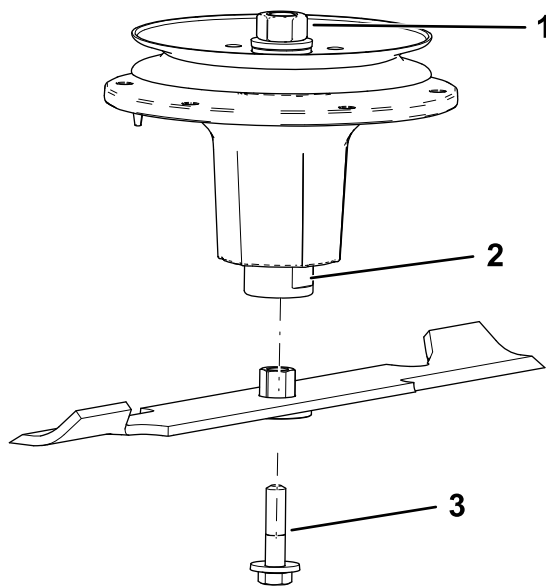

**Figure 105**
2. Install the bushing/blade assembly into the spindle shaft (Figure 105).